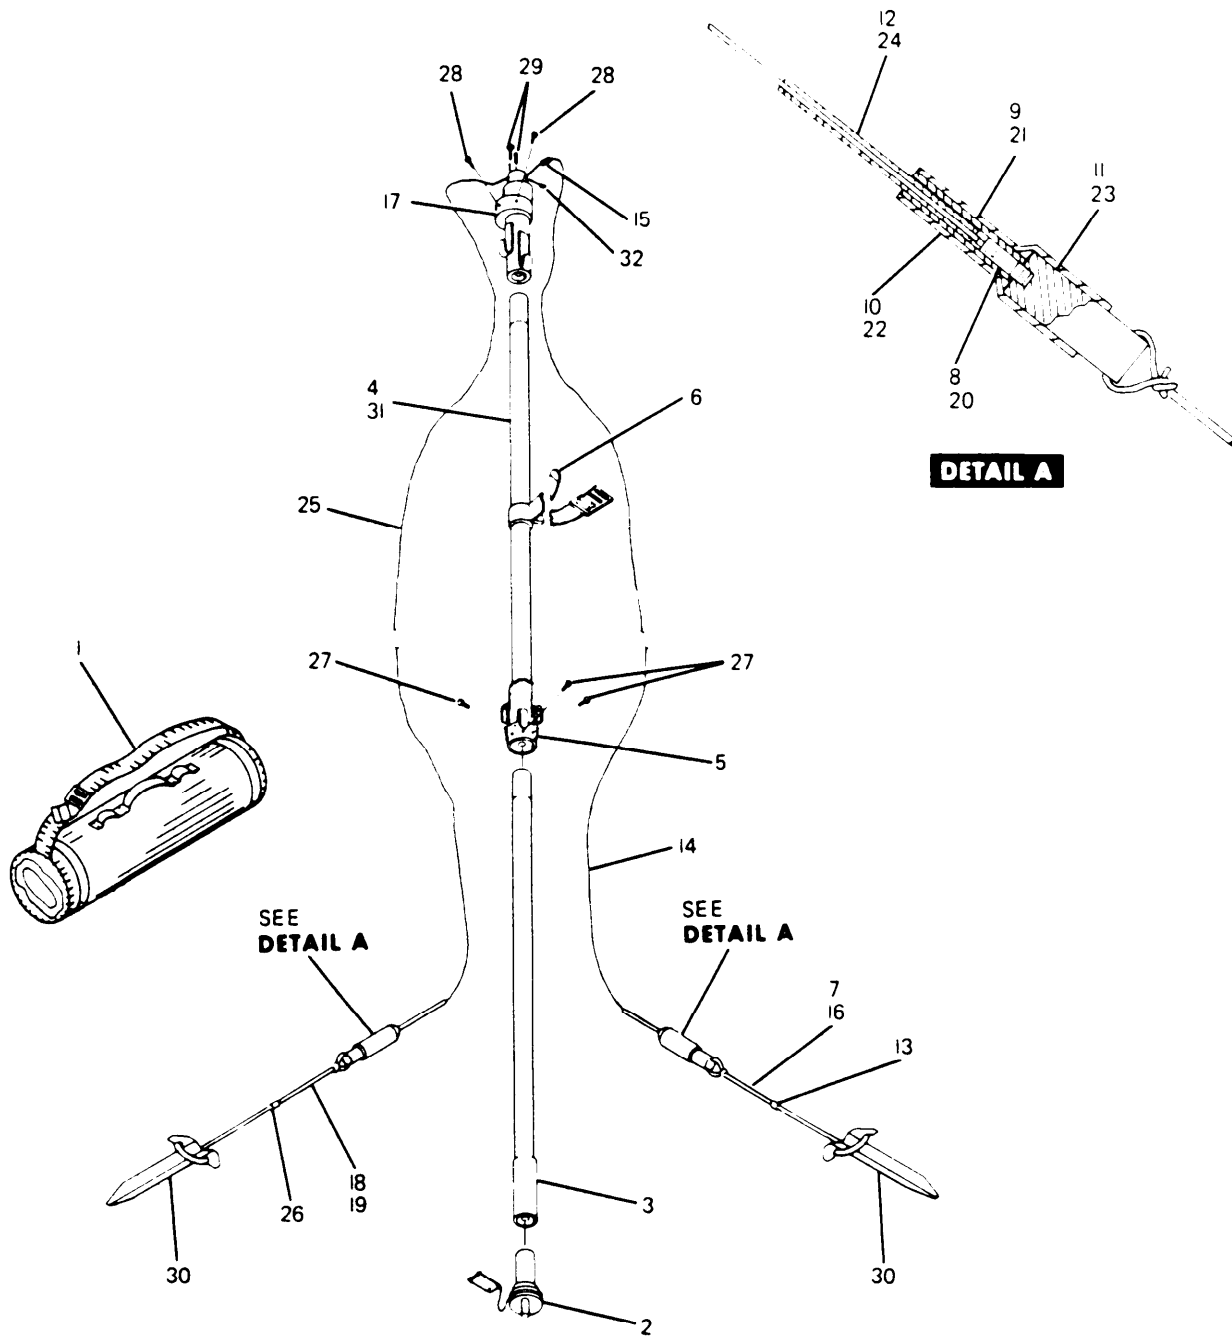

Figure 5-1. AS-2259/GR Antenna, parts location.
Check tightness of attachment screws (items 28 and 29, Figure 5-1) holding the element wires at the mast top.